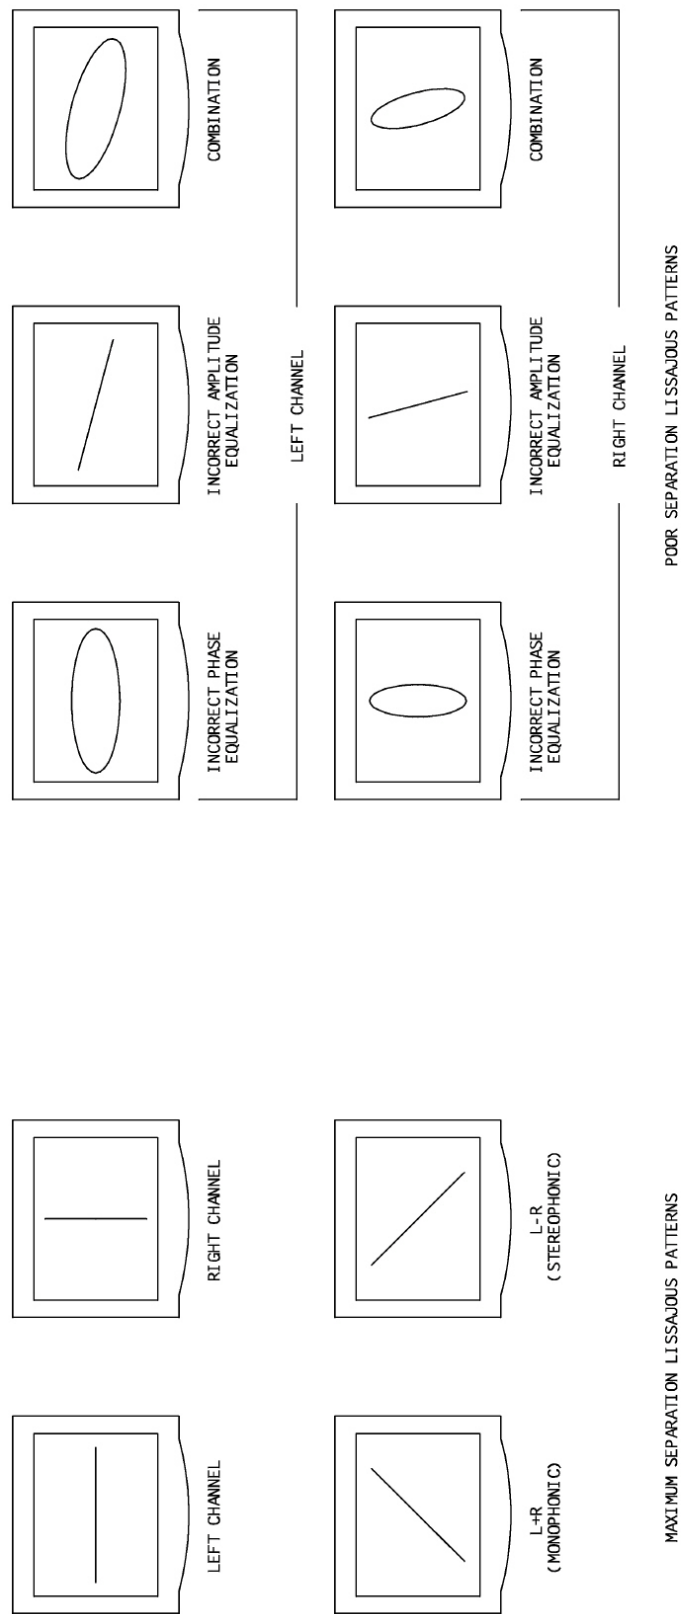

Figure 2-13. Equalization Lissajous Patterns
2. Refer to Figure 2-5 and adjust the left channel level control to obtain a horizontal lissajous pattern (refer to Figure 2-13).
- B. Refer to Figure 2-5 and adjust the left channel delay control to close the oscilloscope display and obtain a straight-line lissajous display as shown in the maximum left channel separation lissajous pattern (refer to Figure 2-13). If the display will not close, proceed as follows:
- B. Refer to Figure 2-5 and adjust the left channel cutoff and peak controls to obtain a maximum left channel separation lissajous pattern as shown in Figure 2-13.
- C. If a maximum left channel lissajous pattern cannot be obtained, refer to Figure 2-5 and adjust the left channel delay control to close the oscilloscope display and obtain a straight-line lissajous pattern (refer to Figure 2-13).